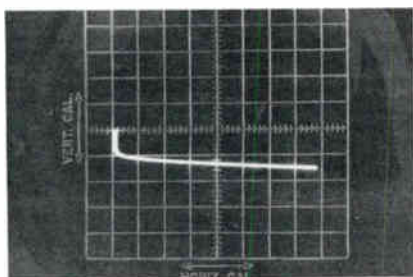

Fig. 34 A forward voltage drop of .75 volt at 800 millamps is measured by this diode curve.
- Increase the VOLTAGE ADJUST control (do NOT press the PIV test button) to produce a horizontal waveform similar to that in Fig. 34. Position the vertical portion of the trace on the left borderline of the scope graticule, with the trace initially starting on the zero voltage (horizontal) line. The vertical divisions are .5 volts each (many silicon rectifiers will measure about .7 or .8, as shown). A vertical line indicates no current (an open diode).